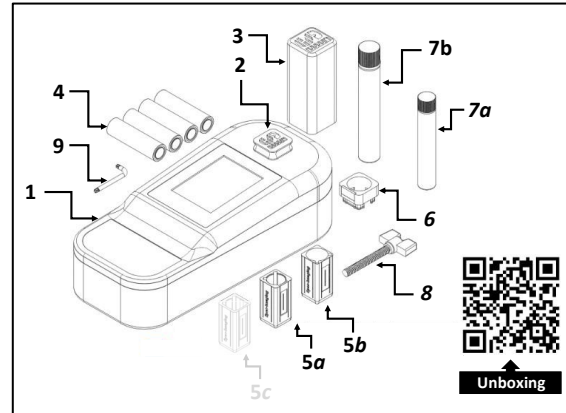

Figure 2. Overview of all parts delivered.
The components included in the package are shown in Figure 2 and listed below. Please contact Spec-Imaging if any components are missing upon delivery. Components marked
To swap cuvette holder, use the Extraction Tool (8) shown in Figure 2 to remove the mounted holder. When getting a grip, screw the Extraction tool in the center hole of the cuvette holder 1.5 full turns and pull it out of the device.